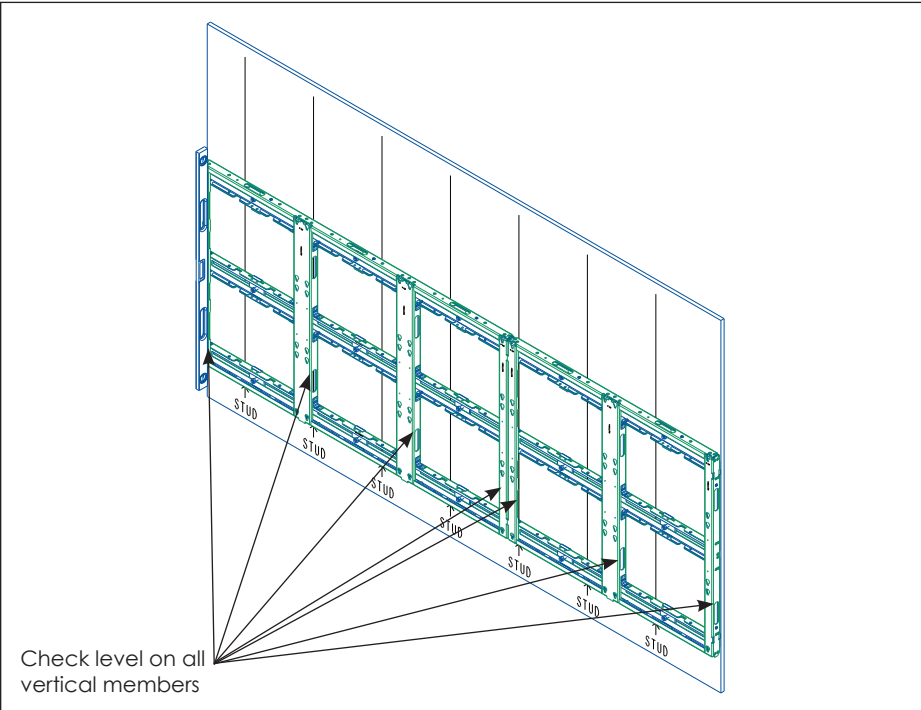

Figure 6: Identify Bolt Assemblies to Z-Adjust
- 1. Identify the bolt assembly locations to adjust away from the wall. Refer to **Figure 6**.